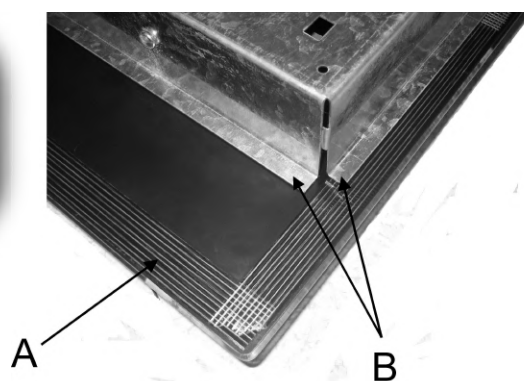

FIG. 11/B
Caution: Do not allow the glass (A) lay directly on the work top. it is the metal bottom "carter" (B) that has to be in touch with the work top (see fig. 11/B).